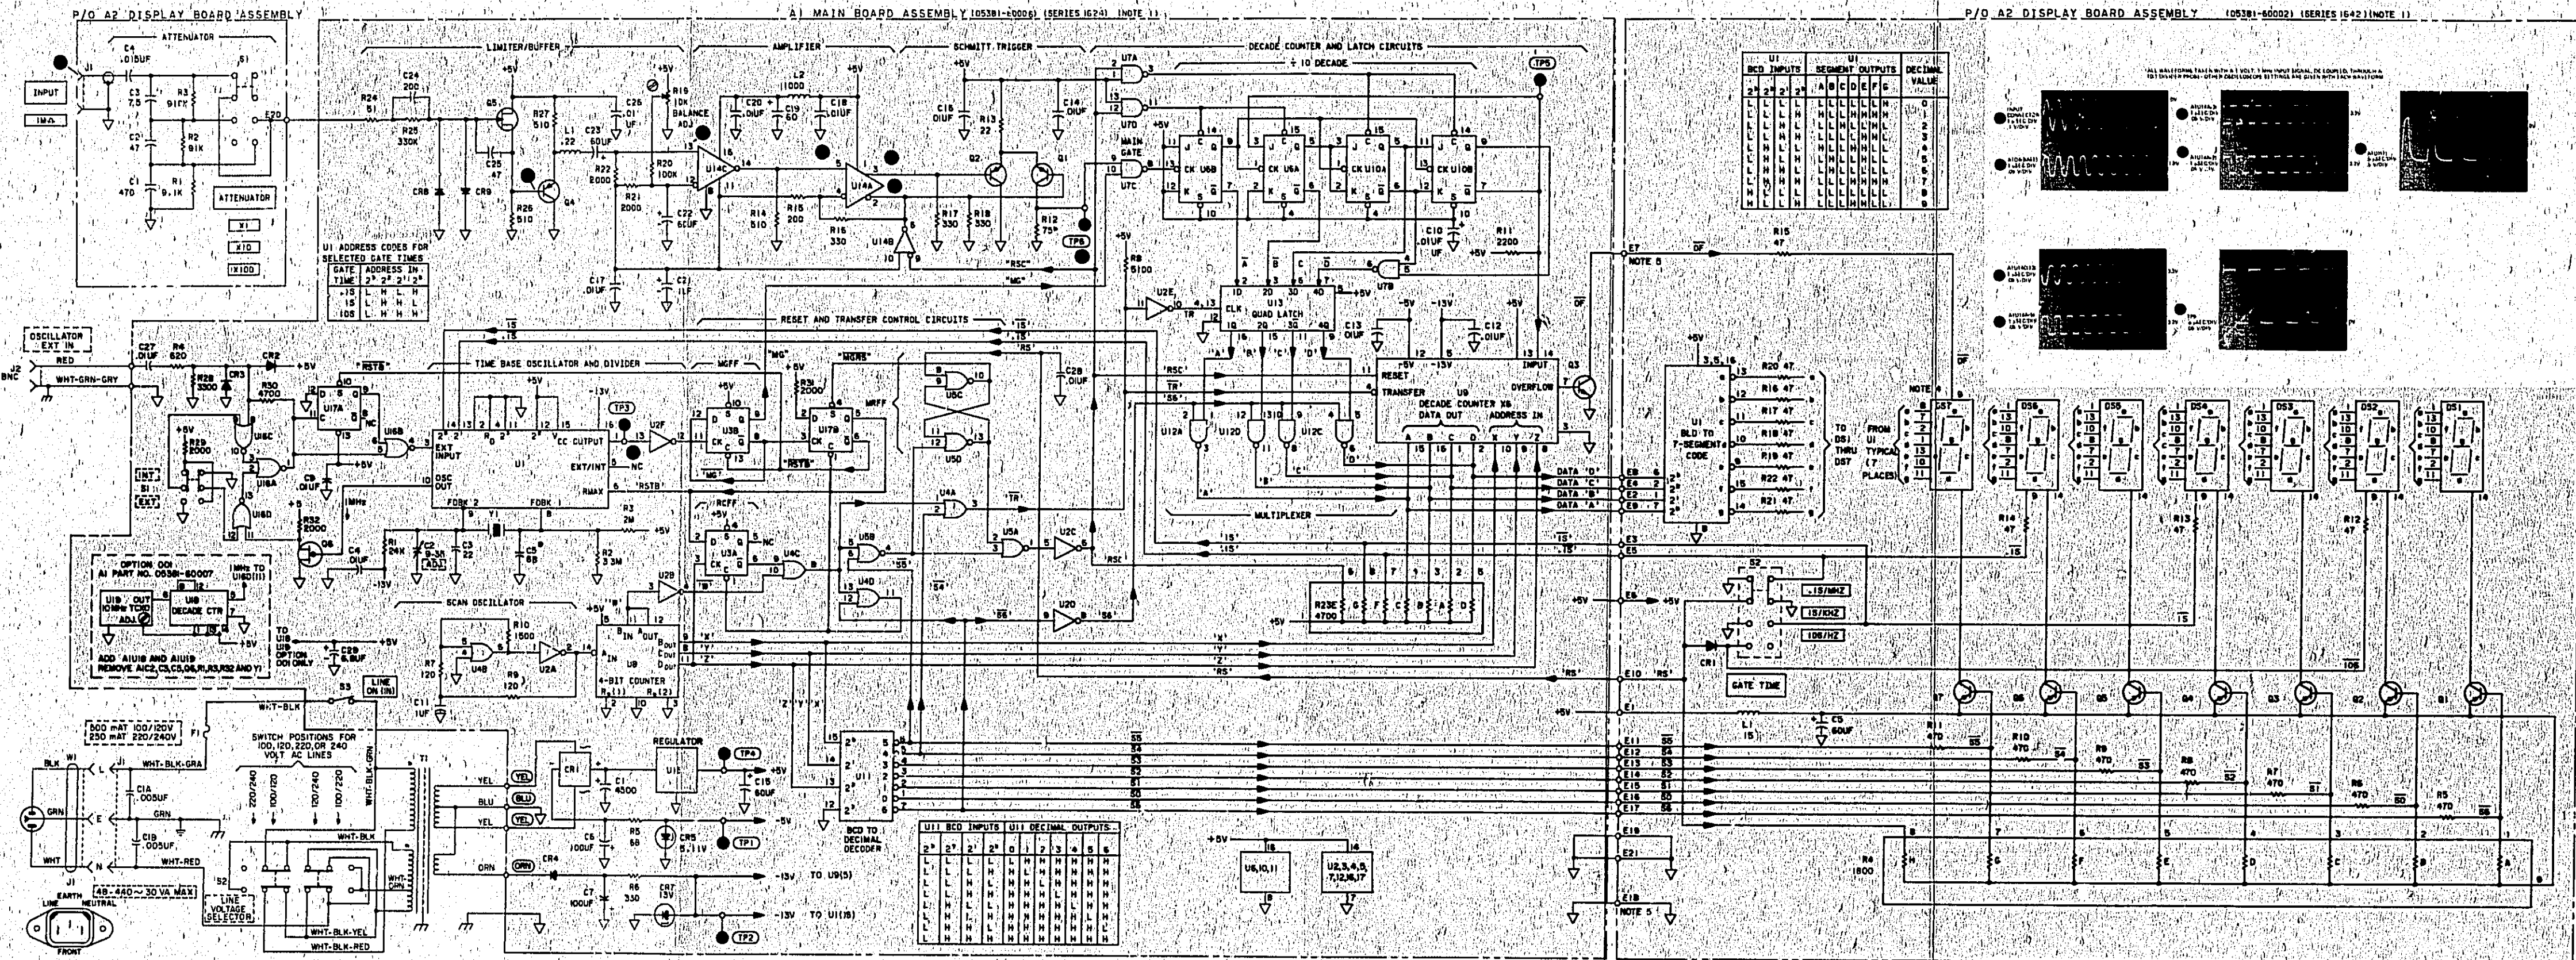

Figure 3-7. Overall Schematic Diagram
**Page 3-21, Figure 3-5, Component Locator and Page 3-23, Figure 3-7 Schematic Diagram:**
Page 3-21, Figure 3-5, A1 Component Locator and Page 3-23, Figure 3-7, A1 schematic diagram:
Page 3-21, Figure 3-7, Overall Schematic Diagram: